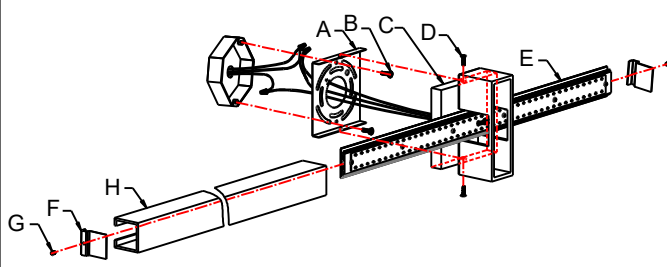

Fig. 2
CONNECTING THE WIRES (Fig.2)
4. Connect the electrical wires as shown in Fig. 2, making sure that all wire connectors are secured. If your outlet has a ground wire (green or bare copper), connect the fixture's ground wire to it. Otherwise, connect the fixture ground wire directly to the mounting plate (A) using the green screw provided. After wires are connected, tuck them carefully inside the junction box.
5. Place the fixture's back plate (C) over the mounting plate (D) and secure with screws (E).